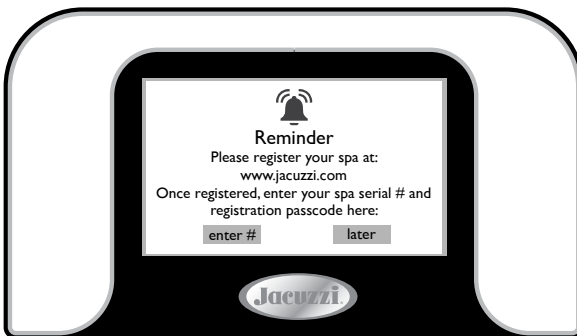
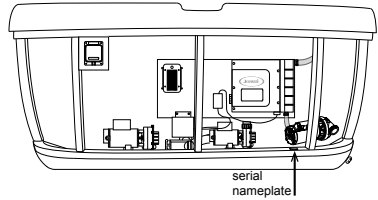

Figure 10.2a
Figure 10.2b
Registering your spa is important in order to validate your warranty, Figure 10.2a. In order to register you will need to have the spa serial number, Figure 10.2b, then you will need to register online in order to receive a passcode. The passcode must be entered on the control panel.
1. From the registration screen, Figure 10.2a, tap **enter #** to enter the spa serial number.